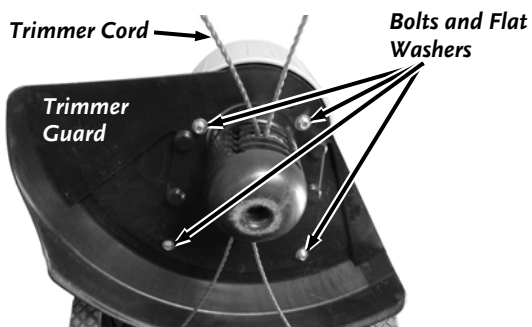

Figure 29
3. Remove the four Trimmer Guard Bolts and Flat Washers with a 3/8" Wrench. Remove the Trimmer Guard (**Figure 29**).
15. Position the Trimmer Guard and secure with the four Bolts and Flat Washers using the 3/8" Wrench (**Figure 29**).